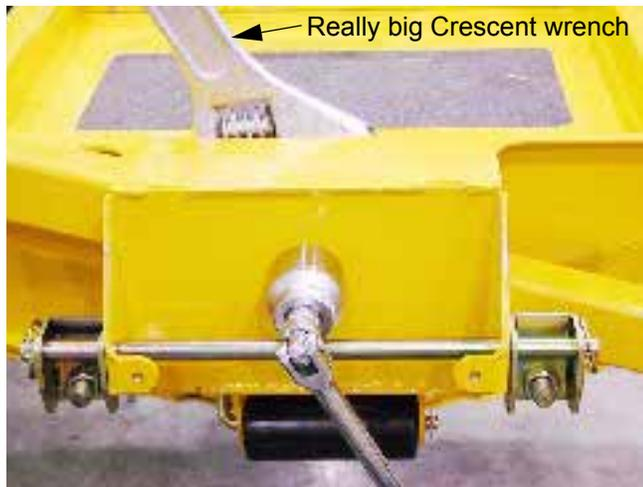

Figure 13.8
13.8. The pivot bolt can be removed using a pair of 1 1/2" wrenches. See Figure 13.8.